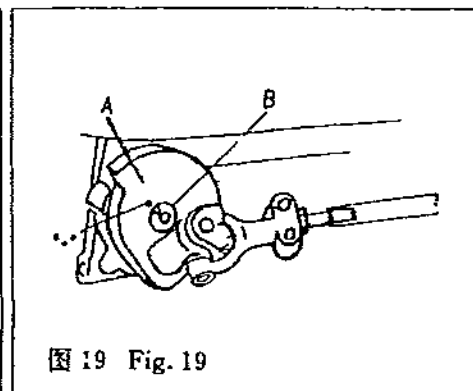

图 19 Fig. 19
(1) 钩线叉的基本位置 钩线叉的基本位置由钩线叉曲柄"A"与主轴"B"的位置决定。安装时应将曲柄上的圆点"."标记对准主轴上的"V"形槽中心时,将钩线叉曲柄固定(图19)。
Basic position of thread hook is decided by positions of crank "A" of thread hook and main shaft "B". When the mark "." on the crank coincides with the center of "V" groove on the main shaft, fix the crank of thread hook in place (Fig. 19).
③调整钩线叉曲柄上的圆点“·”标记与主轴“V”形槽的相对位置(图 19)对钩线叉的左右位置也有影响。所以调整钩线叉的左右位置，必须根据具体情况，在上述三步骤中仔细选择和反复进行调整，才能达到最佳状态。
(2) Positioning of location for pronged thread hook
③ Adjustment of location of the mark "·" on the crank of thread hook in relation to "V" groove on the main shaft (Fig. 19) impairs the positioning of the location of the thread hook. Thus micro-adjustment of the position for thread hook shall be made accordingly. An ideal condition
①运动关系调整 通过调整钩线叉曲柄上圆点“·”标记相对于主轴“V”形槽位置(图 19)。
①Adjustment of timing relation by regulating the position of the mark “·” on the crank of thread hook and “V” groove on the main shaft (Fig. 19).